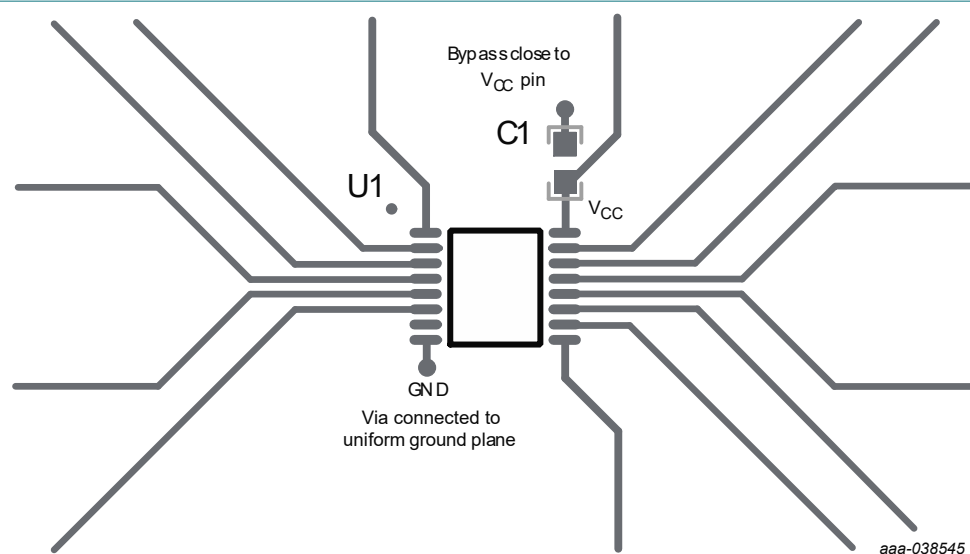

Fig. 13. NMUX1308A layout example with NMUX1308APW (TSSOP16/SOT403-1) package
The image provided below (Fig. 13) offers a glimpse into an example PCB layout with the (PW) package. Bypass capacitors should be positioned near the V_{CC} pin, and the GND pin should be connected to external/internal GND planes. A uniform GND plane helps in reducing noise and minimizing loop inductance, thereby ensuring optimal performance.